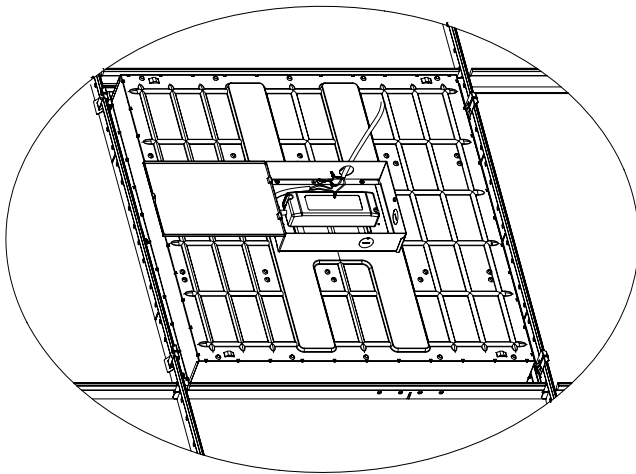

Fig.5
- Connect the white wire from the mains power supply to the white wire from the outlet box. (Fig.5)
- Connect the black wire from the mains power supply to the black wire from the outlet box. (Fig.5)
- Connect the ground wire from the mains power supply to the ground wire from the outlet box. (Fig.5)